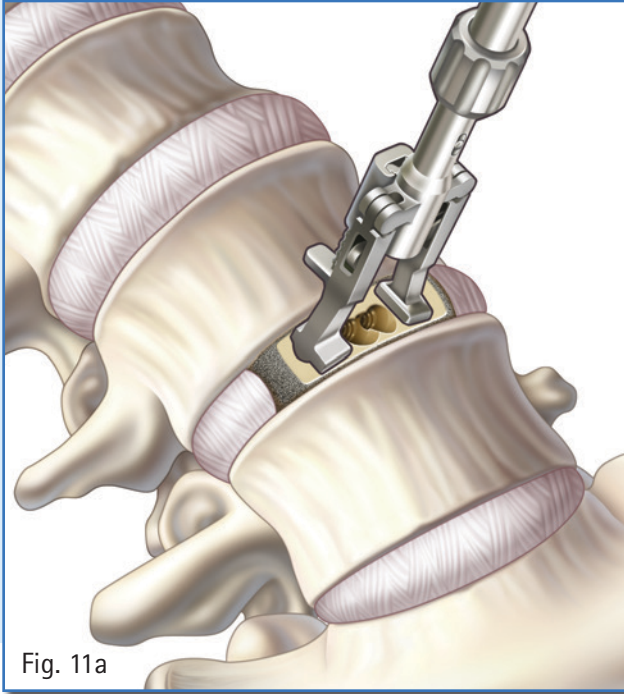

Fig. 11a
**Note:** It is recommended that the implant insertion instrument is left attached to the implant for medial screw hole preparation and screw insertion (Figure 11a).